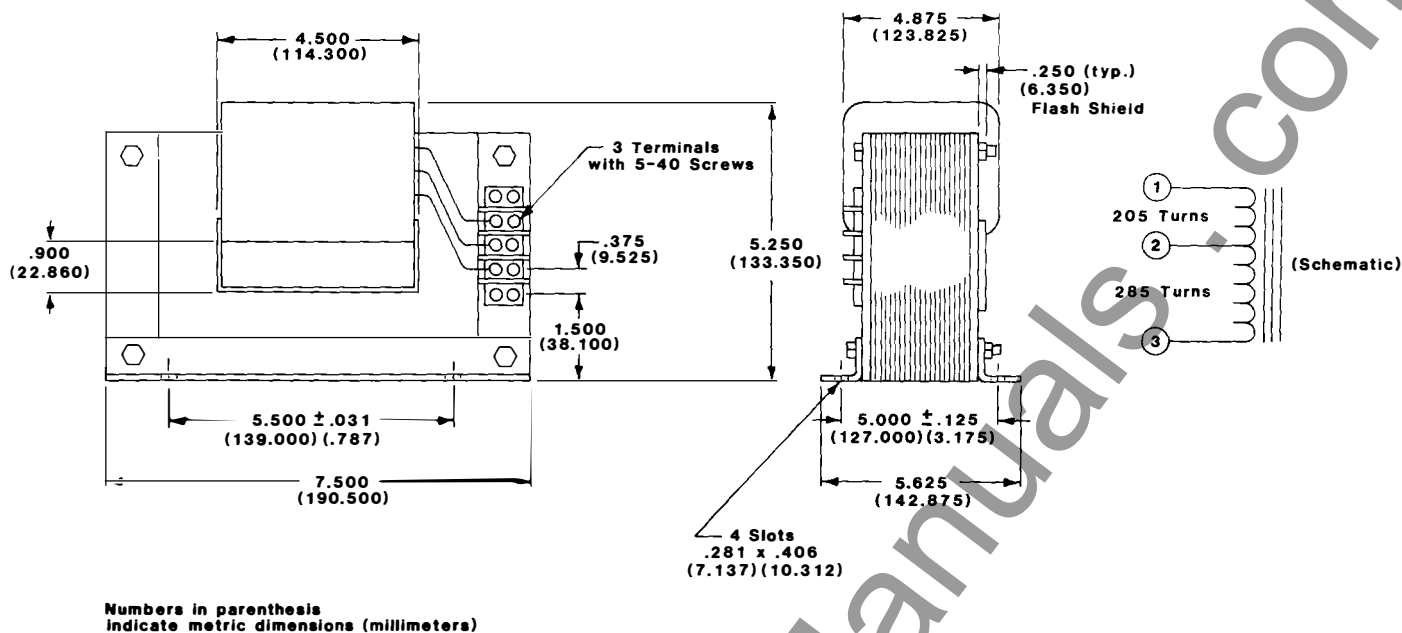

FIGURE 5 – OUTLINE DRAWING, CURRENT TRANSFORMER, P/N BE 15486-001
of phases (2). Multiply this product by the diameter of the conductor to find the required minimum size of the CT window, then determine which of the CTs in Figures 5 and 6 meets the requirement. Figures 5 and 6 also show the appropriate CT terminals for secondary turns.
(STEP 5) The first numeral of the turns-ratio (1), the number of conductors per phase (2) and the number of phases (2) multiplied together results in: 4 conductors (through the CT window). From generator manufacturer data, 0.7 in. is the conductor diameter; therefore, for 4 conductors the CT window must be at least 0.7 in. x 2.8 in. Basler CT P/N BE 15486-001 (Figure 5) is 0.9 in. x 4.5 in. and meets the requirement.